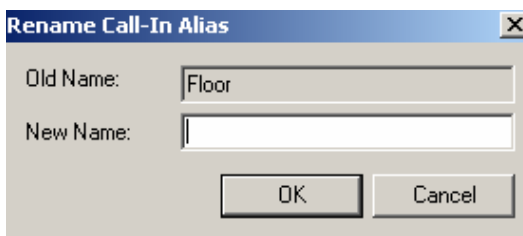

Figure 9.25. Typing a New Name for the Alias
2. The **Rename Call-in Alias** dialog box appears, as shown in **Figure 9.25**. Enter a new name for the alias, and then click the **OK** button.